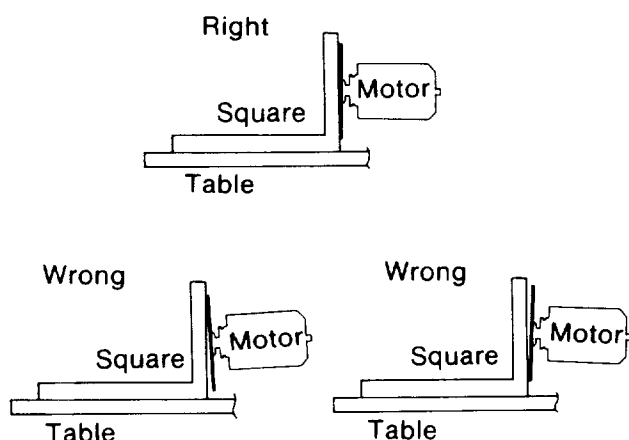

Fig. 87
7. If the square is flush with the *blade* after each rotation, no change is needed. (Figure 87) Go to the next section, or
If there is a gap between the square and the *blade* after any rotation (Figure 87), go to step 8.